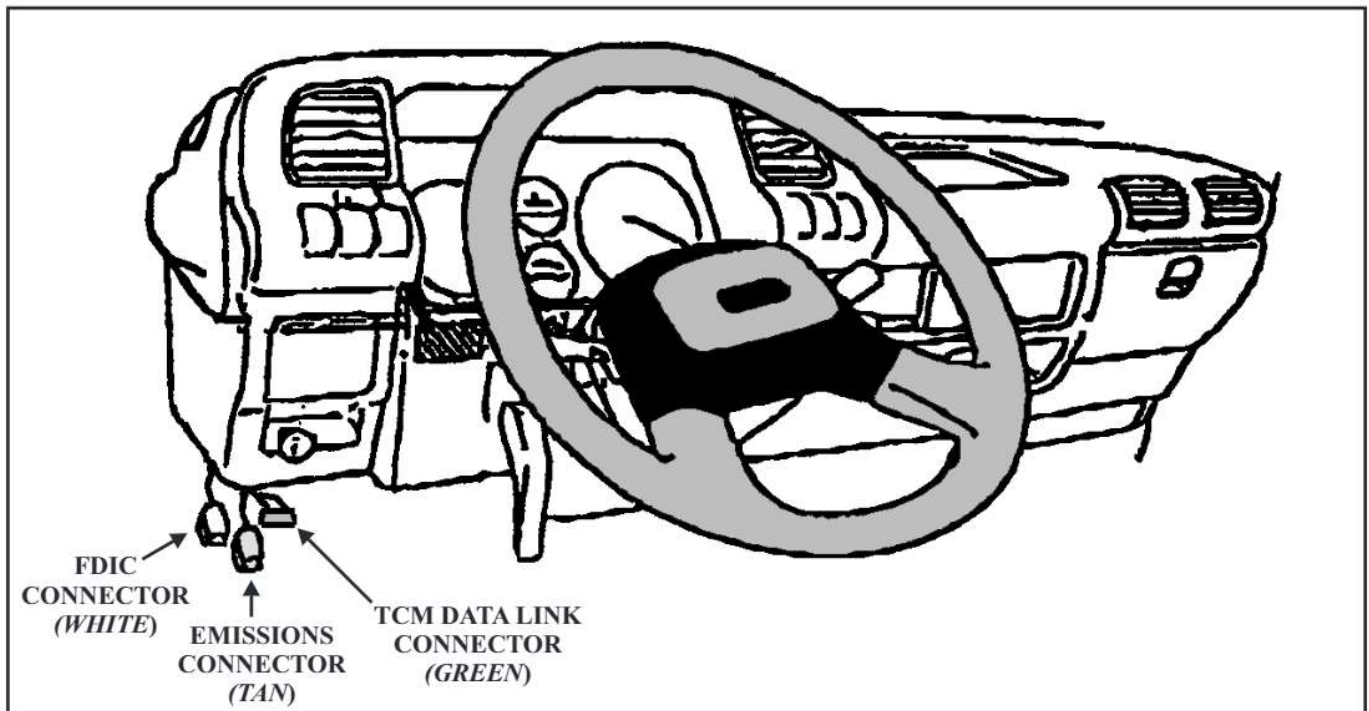

Figure 25
1. Disconnect the Fast Idle Control Device (FICD) connector. (It is a single pin WHITE connector located near the GREEN TCM DLC connector, and is usually wrapped in BLUE tape, Refer to Figure 25).